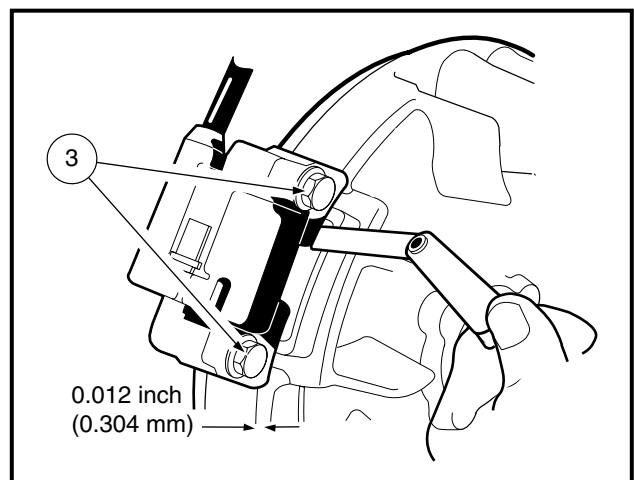

Figure 13-9 Adjust Ignition Coil Air Gap
2. Tighten the two bolts (3) and use a bronze feeler gauge to adjust the ignition coil air gap to 0.012 inch (0.304 mm) (**Figure 13-9, Page 13-7**).